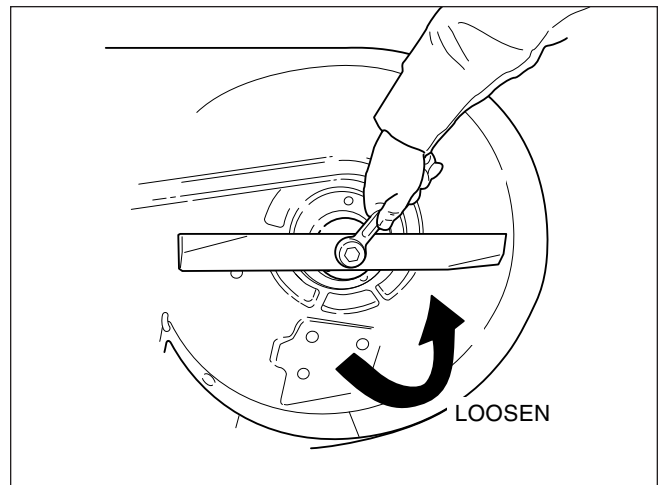

Figure 17. Removing the Blade
4. To remove blade for sharpening, use two (2) 15/16" wrenches to remove the nut from the top of the blade bolt. (Figure 17).